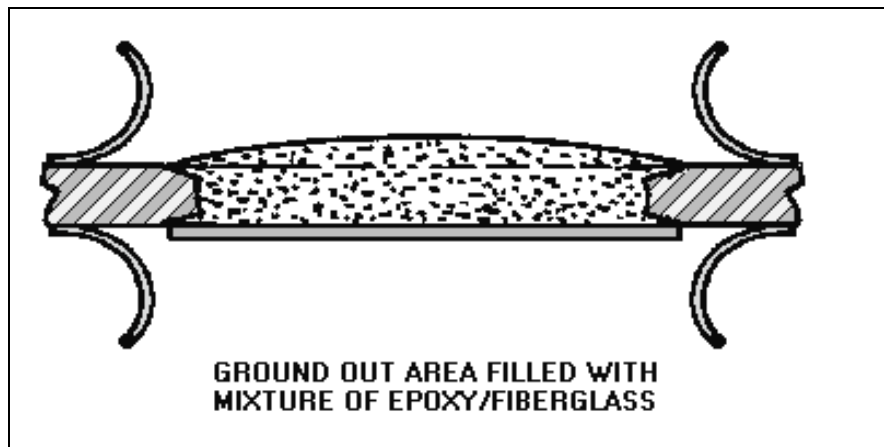

Figure 3-27.—Repair of cracked pcbs.
4. The cutaway area is filled with a compound of epoxy and powdered fiberglass (figure 3-27). Extreme care is exercised to prevent the formation of voids or air bubbles in the mixture.